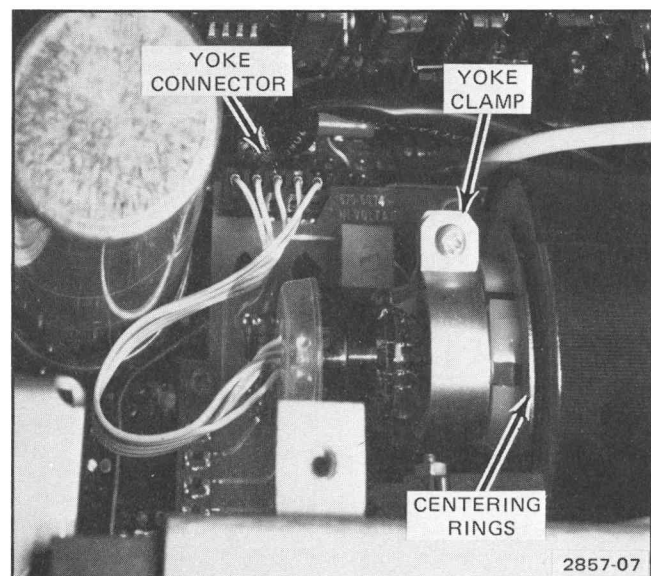

Figure 2-2. Yoke clamp, yoke connector (P1690), and centering rings.
b. Loosen yoke clamp (Fig. 2-2).
a. Set ON button out (off) and disconnect yoke plug, P1690 (Fig 2-2). Set ON button in (on).
c. **ADJUST**—Centering Rings for centered spot. Refer to Fig. 2-2.